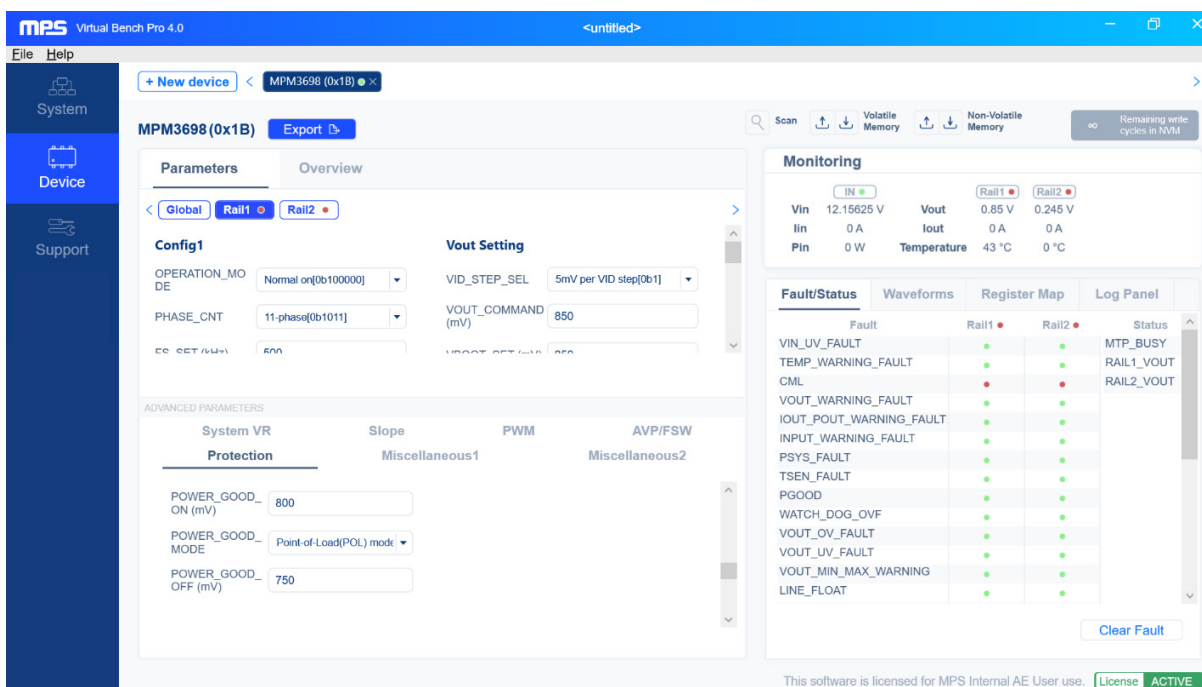

Figure 3: MPM3698 GUI Screen
5. The operating conditions, including V_{OUT} , V_{IN} , I_{OUT} , and temperature, can be monitored on the right-side panel of the GUI (see Figure 3).